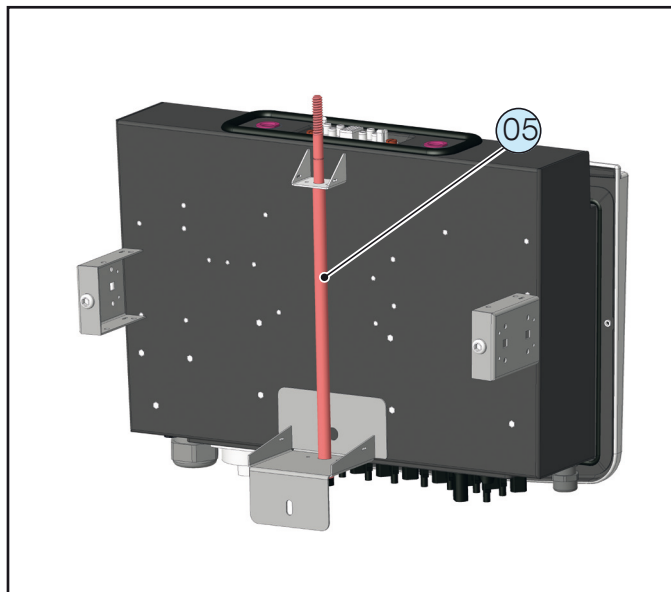

Figure 2 - rear coupling screw
The rear coupling screw ①05 is not included with the new TRIO product packaging (see Figure 2 below), and can be purchased separately (part number 3M870010000A) to be used as a fitting tool during installation. This tool must be extracted from the wiring box after assembly and can be used in other installations. Before removal, make sure the connection screws ①07 are tightened and that the assembled Inverter/Wiring Box is secured to the wall bracket. Exercise caution when removing the coupling screw, because when it becomes disconnected from the Inverter, it will freely fall from the bottom of the wiring box.
- Mount the inverter by putting the heads of the rear screws into the slots in the bracket. To make this operation easier, an optional lifting kit which includes handles (06) or two eyebolts (M12) can be fitted in the side holes (part number 3M2200HNDK0). The threaded wall plug in the lower part of the heat sink makes contact with the pin (B), keeping the inverter in the ideal position.
- Use the prefitted screw or insert the optional coupling screw (05) (see Figure 2) and tighten it, bringing the Wiring Box towards the inverter until it makes firm contact.
- Fully tighten the two connection screws (07) to the centering pins in the Wiring Box, ensuring the gasket adheres correctly.
- Attach the assembled Inverter/Wiring Box to the bracket by tightening the locking screw (27) located at the bottom of the Wiring Box.